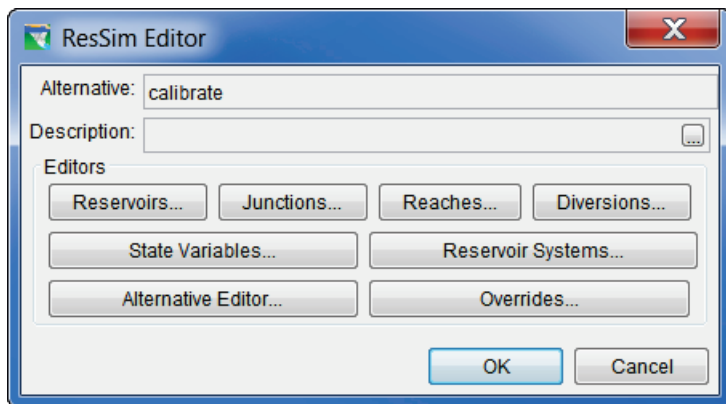

**Figure L.32** HEC-ResSim – Alternative Editor
2. The **ResSim Alternative Editor** will open (Figure L.32). This editor allows the user to modify the run control information for the selected HEC-ResSim model alternative; adjust data for operations, lookback, time-series, and observed data; and, various other alternative based options. For further detail on this editor, reference the HEC-ResSim User's Manual.
3. From the **Alternative** menu, click **Close**, the **ResSim Alternative Editor** (Figure L.32) will close.